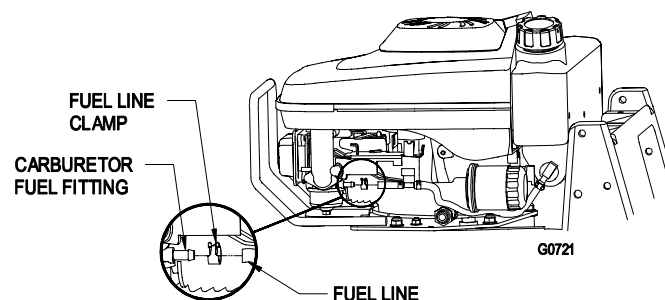

FIGURE 20
- d) Disconnect the fuel line (Figure 20) by loosening the tube clamp at the carburetor.